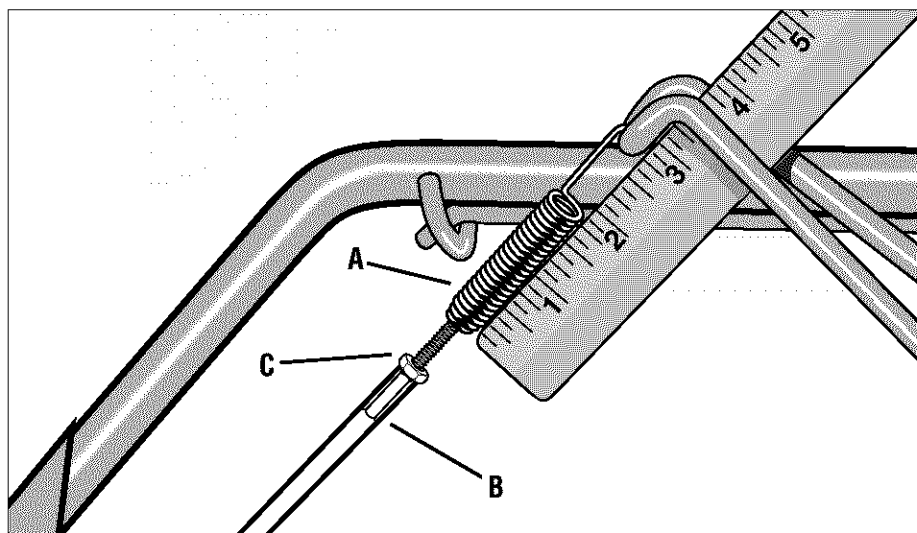

Figure 5-4: Lift bail and check length of Clutch Bail Spring to check for correct belt tension (1-7/8").
2. Loosen nut "C" (Figure 5-4) several turns so it is about halfway up the threaded adjustment screw.
3. Lift the Forward Clutch Bail up and hold it to the bottom of the handlebars. Measure the length of the clutch bail spring (A, Figure 5-4) with a ruler. If the belt tension is correct, the length of the coiled portion of the spring should be approximately 1-7/8". Nut "C" should then be snugged down against the top of the adjuster (B).
5. To adjust the length of the spring, release the Forward Clutch Bail. Thread the hex nut (C, Fig. 5-4) halfway up the adjustment screw. Turn the screw inside the spring (A, Figure 5-4) counterclockwise (as viewed from the operator's position) while holding the adjuster (B) steady to increase the length of the spring, or turn clockwise (as viewed from the operator's position) to decrease the length of the spring.